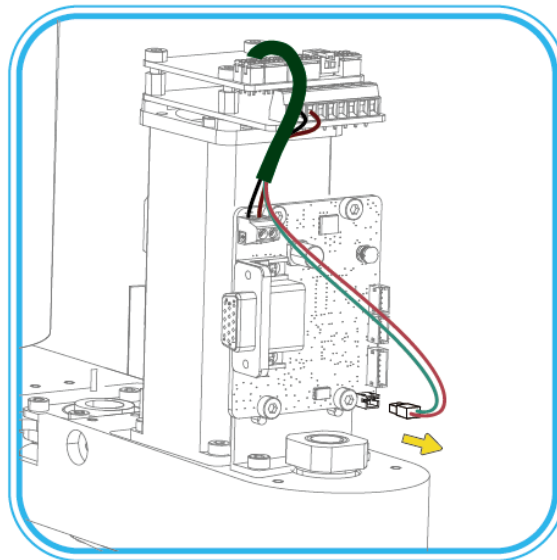

Figure 7.10 Unplug the CAN cable
3. Unplug the CAN cable, as shown in Figure 7.10.